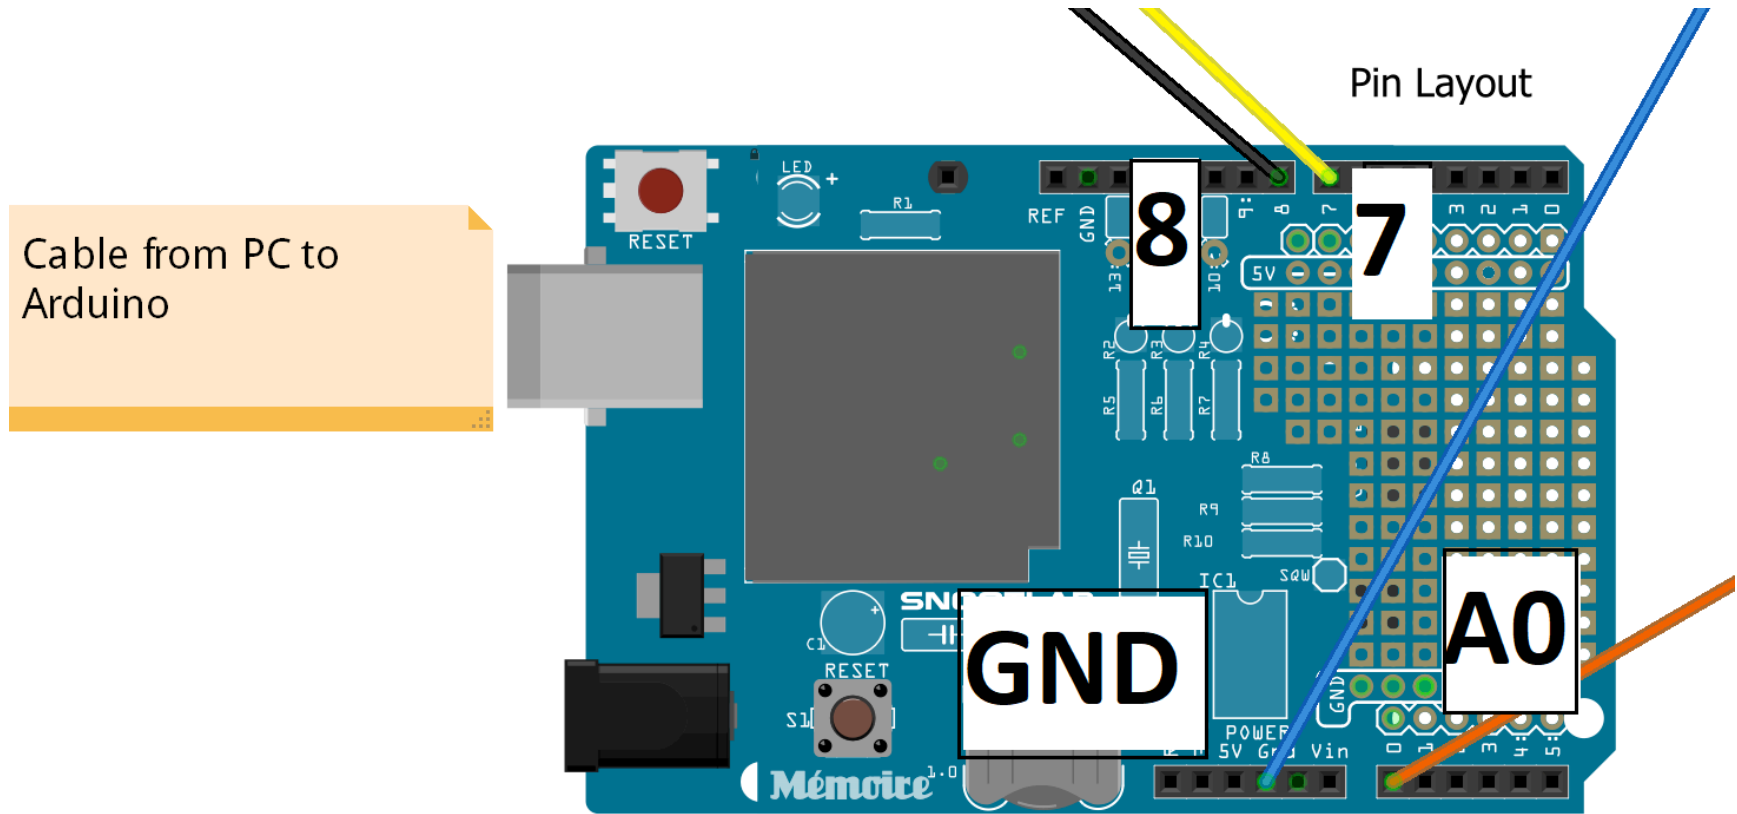

Figure 11 – Closeup of pin connections on Arduino.
- v. Check wires are all in. refer to Figure 10 and Figure 11.